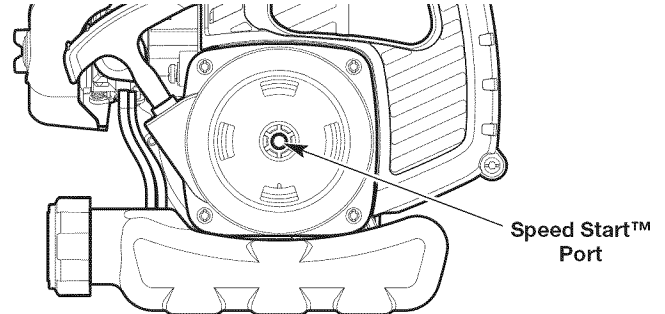

Fig. 10
6. **DO NOT** squeeze the throttle control. Insert the Speed Start™ accessory into the Speed Start™ port (Fig. 10). Refer to the *Operation* section of the Speed Start™ accessory operator's manual.